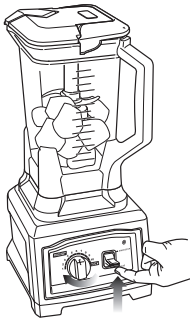

Fig. 6
- 10 Turn the Variable Speed Dial to speed 1. (Fig. 6) The power indicator light (ⓘ) will now turn on.